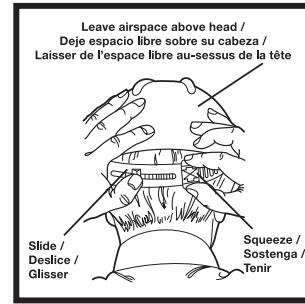

Figure 6
- For Staz-On suspensions, tighten the nape strap while sliding the tab to your left until the headband fits comfortably (Figure 6).